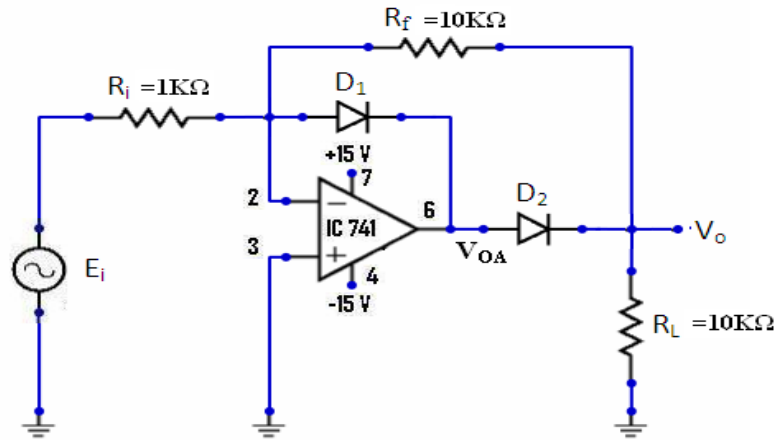

Fig 3.5. Precision Half-Wave Rectifier – A
- 1) Build the precision half wave rectifier circuit shown in fig. 3.5.
**Draw the circuit of Fig.3.5, with reversed polarities for the two diodes.** This is the precision HWR – configuration B.